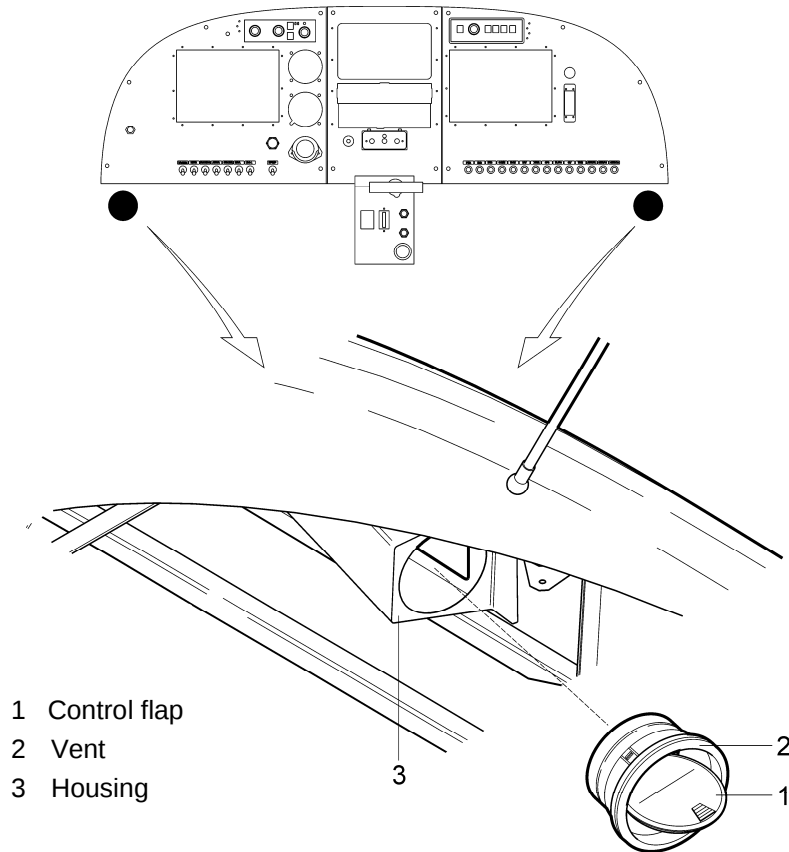
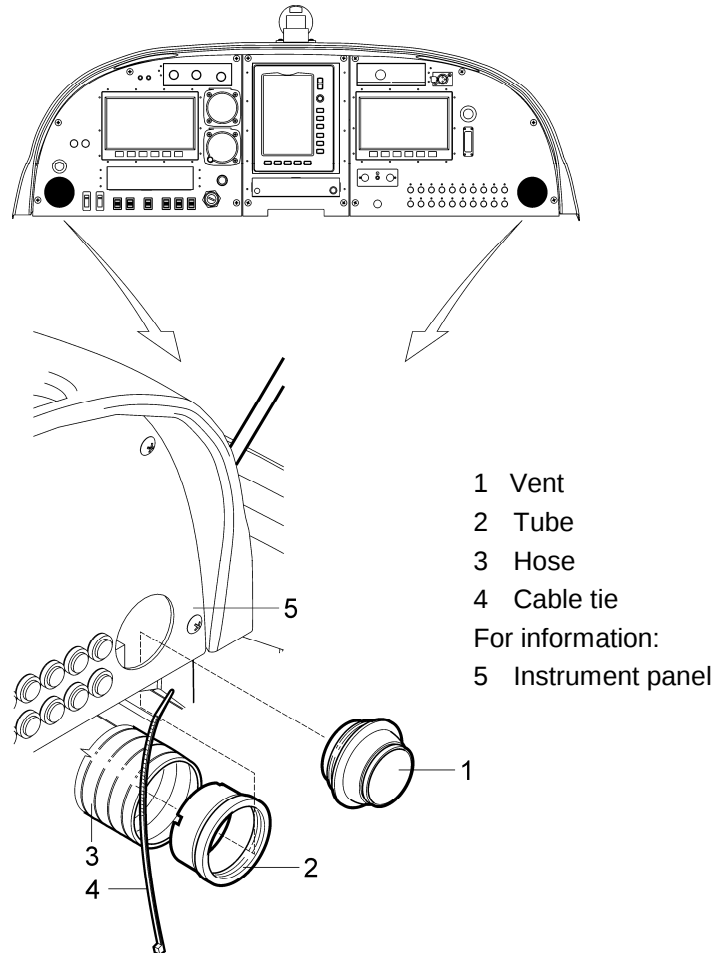

Fig. 13-5: Air vents removal / installation
Fig. 13-6: Air vents removal / installation
Cockpit ventilation is ensured by two regulated air vents located on the cockpit sides under the instrument panel (see Fig.13-5) or on the instrument panel (see Fig.13-6). NACA type air inlets are located on the fuselage sides in front of the canopy frame. Quantity of inlet air is controlled by flaps which are movable in all directions which allow adjusting the air volume and air flow direction together. It is also possible to ventilate the cabin through sliding side windows located on the canopy (if installed).
- (a) Open the control flap (1, Fig. 13-5) 90 degree and pull the vent (2) out from the housing (3).
- (a) Plug the vent (2, Fig. 13-5) into the housing (3) under the instrument panel.
- (a) Unscrew the vent (1, Fig. 13-6) and remove it.
- Put the hose (3, Fig. 13-6) to the tube (2) and secure with the cable tie (4).
- Insert the tube (2) to the hole in the instrument panel (5), screw and tighten the vent (1).
- Check the vent (1) movement.